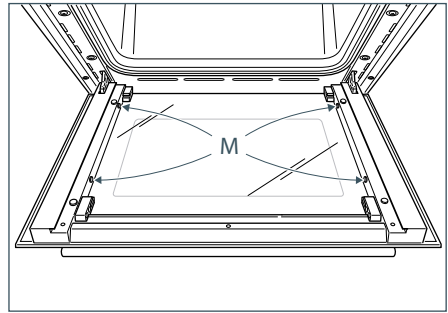

Fig.60a
- Check that the four rubber pads are in place ("M" in Fig. 60a).